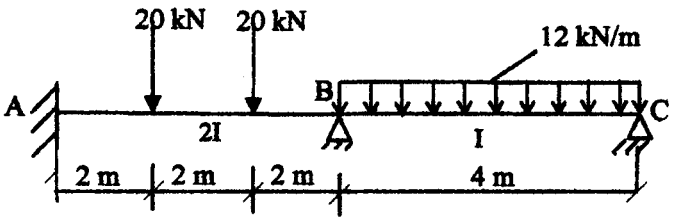

Fig. Q.8
Q.8) Analyze the beam shown in Fig. Q.8 by the Displacement method and draw the B.M. Diagram. Note: shear and axial deformations of the beam may be neglected. (11)